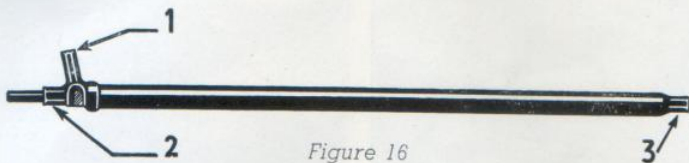

Figure 16
- Loosen the lug nut using the long lever (fig. 16) as shown on fig. **17**. It is only used to loosen the nut not to unscrew it. (The lever is fitted under the hood against the front right hand fender).